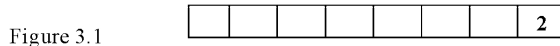

Figure 3.1
- 4) When the “FUNCTION” key is pressed, the last digit display value is the current selection step, (for figure 3.1 2 step)